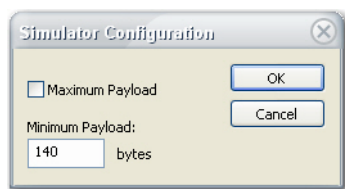

Figure 17-8: Configuring WLAN Simulator
- 1) From the WLAN Throughput Simulator screen, click  and select Configure Simulator. . . from the drop-down menu. The Simulator Configuration dialog box appears. See Figure 17-8.